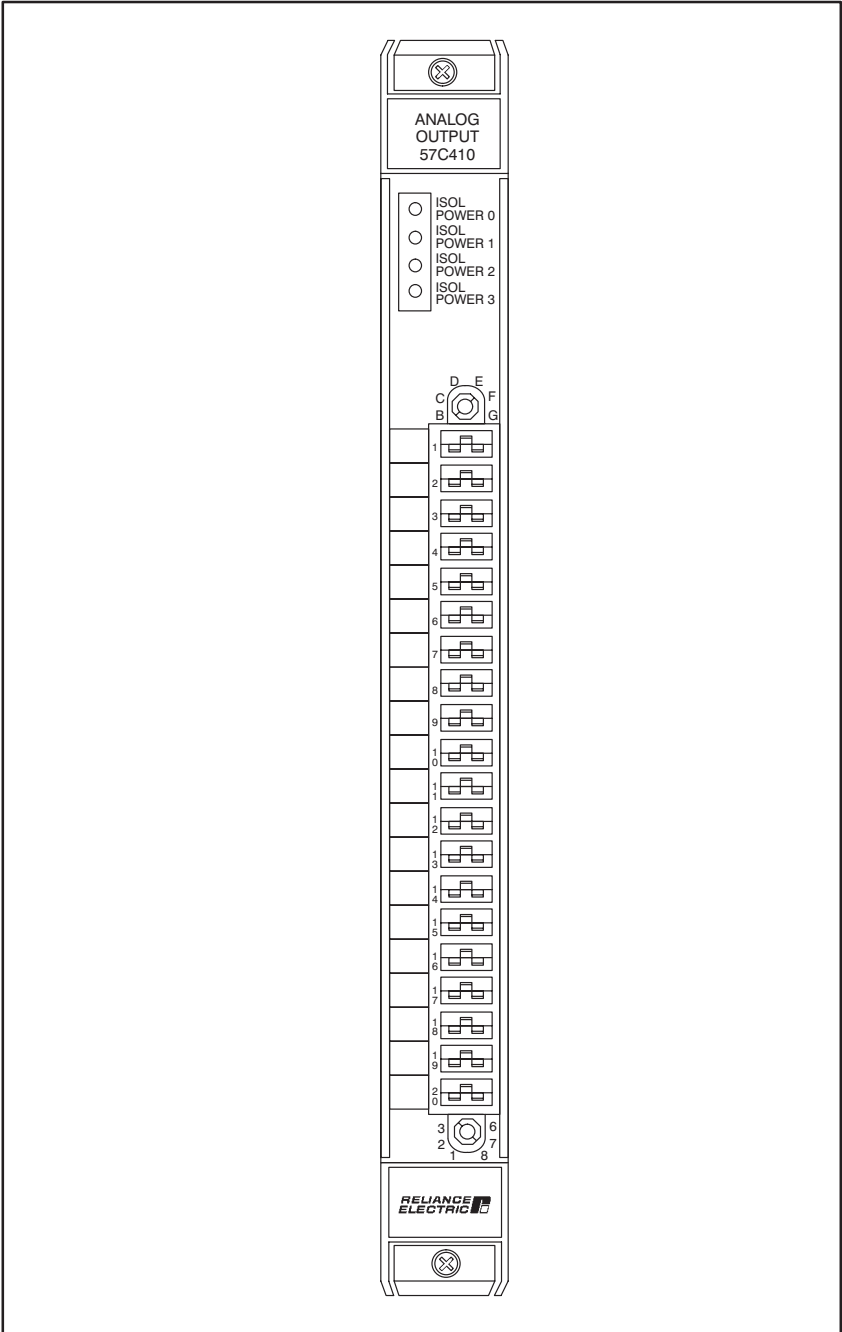

Figure 2.2 - Module Faceplate
- Figure 2.2 - Module Faceplate ..... 2-3
There are 4 LED indicators on the faceplate of the module. The LEDs are arranged in the same order as the output terminals on the faceplate. They are numbered sequentially from zero through three, corresponding to the D/A converter channels. The LED indicators display the status of the four isolated power supplies on the module. A lit LED indicates that the power supply for that channel is operational. See figure 2.2.